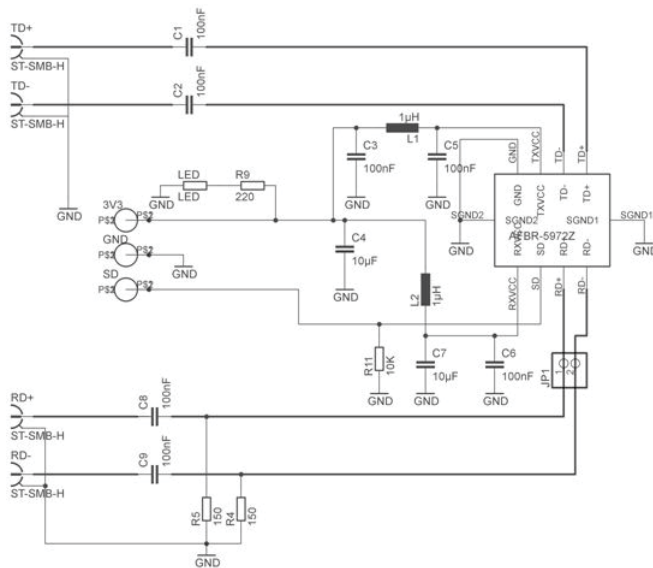

Figure 2. Schematic of the AFBR-0544Z evaluation board
The evaluation board schematic is shown in Figure 2. The transmitter is AC coupled and LVDS compatible as well as LVPECL compatible (Circuit diagram shown in application note - AN 5523), and the receiver is AC coupled and LVPECL compatible as well as LVPECL compatible (Circuit diagram shown in application note). The signal detect (SD) pin is LVPECL compatible. The thick PCB trace between the SMA connector and the input/output pins of AFBR-5972Z represents a 50 Ω transmission line. The top- and bottom-sides of the evaluation PCB are shown in Figure 3(a) and 3(b) respectively.